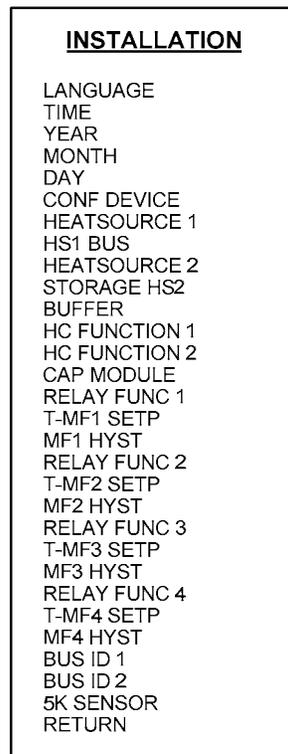

Figure 3-7. INSTALLATION Menu Flow Chart
Initial startup of the Modulex Controller requires a number of one-time entries to be made in the INSTALLATION Menu Flow Chart and Menu Listing shown in Figure 3-7 and Table 3-6 respectively. Table 3-7. Proceed as follows:
1. Set the POWER rocker switch, located to the right of the Controller, to the ON (1) position.
7. Following entry of all Language, Time and Date entries, continue entering the remaining items shown in Figure 3-7 and Table 3-6 until all required items have been entered. Use the Program Key and Rotary Knob to select, adjust and store all entries as previously described.